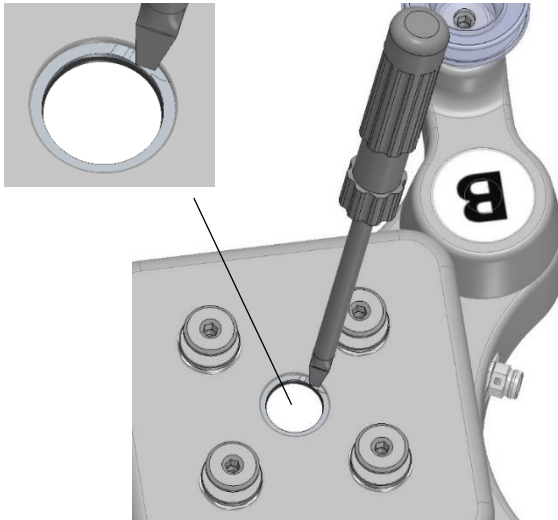

Figure 1.1: Removal of retaining ring.
2. Use a screwdriver (or similar) to remove the notch of the retaining ring; the screwdriver has to pry out the ring by pushing the tip towards the center of the VG10, see figure 1.1. The ring will spiral out of the groove, but it can be tricky. See a demonstration video by following the link below.